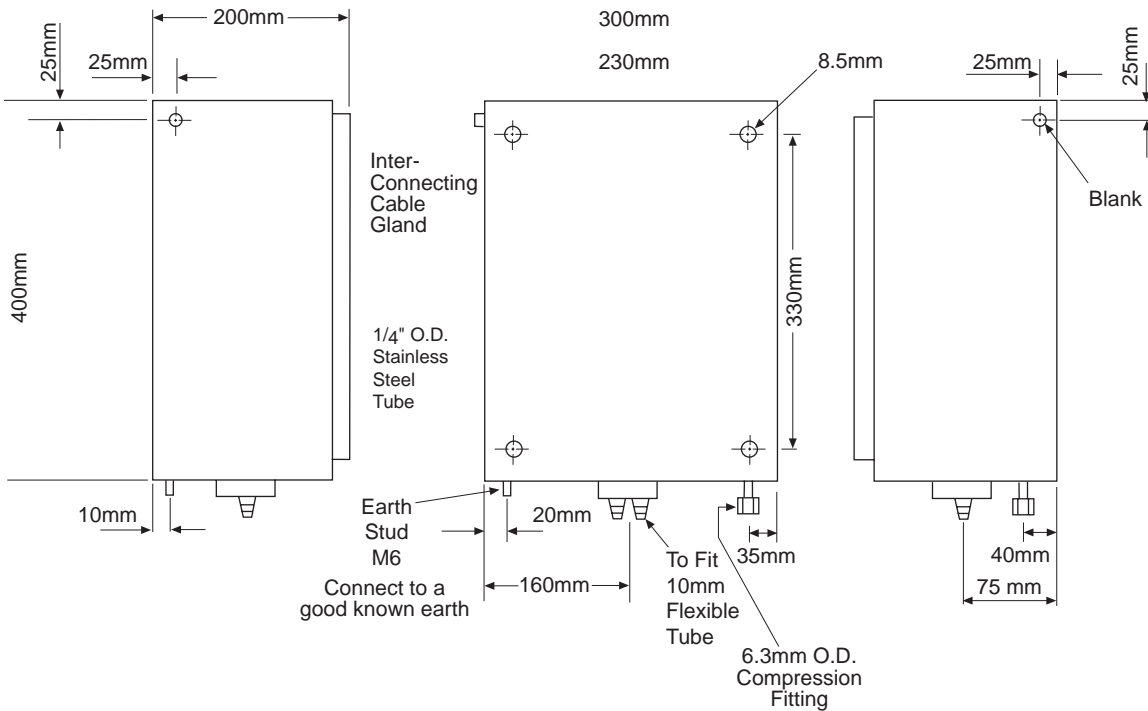

Fig. 2.4 Sensor Unit Dimensions and Installation
2.1.3 Transmitter Unit (Fig. 2.4)